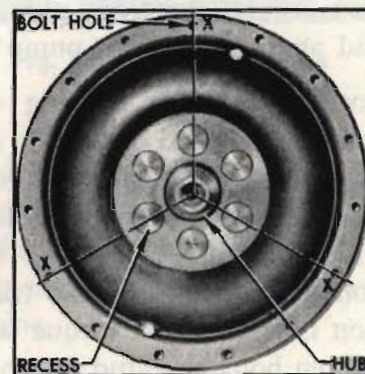

Fig. 41. Location of driving bolt holes
14. Select the three bolt holes on the front face of the converter (X) that are aligned with the center of the hub and one of the counterbore recesses adjacent to the hub. Mark these holes (Fig. 41). They are to be used for the flywheel to pump driving bolts.